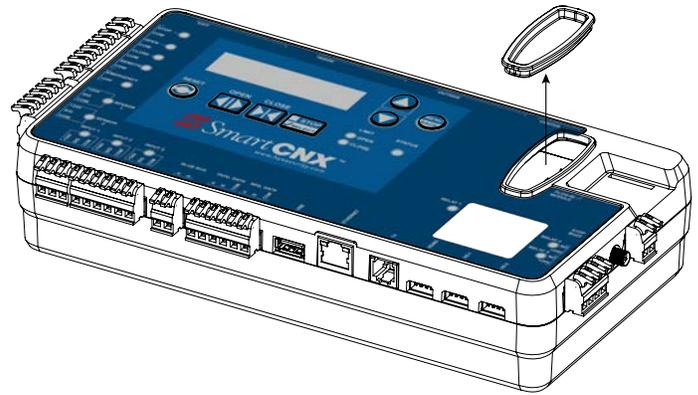

Figure 43. Remove OXI Receiver Cover
2. Remove the rubber plug or OXI receiver from OXI receiver slot (Figure 43).